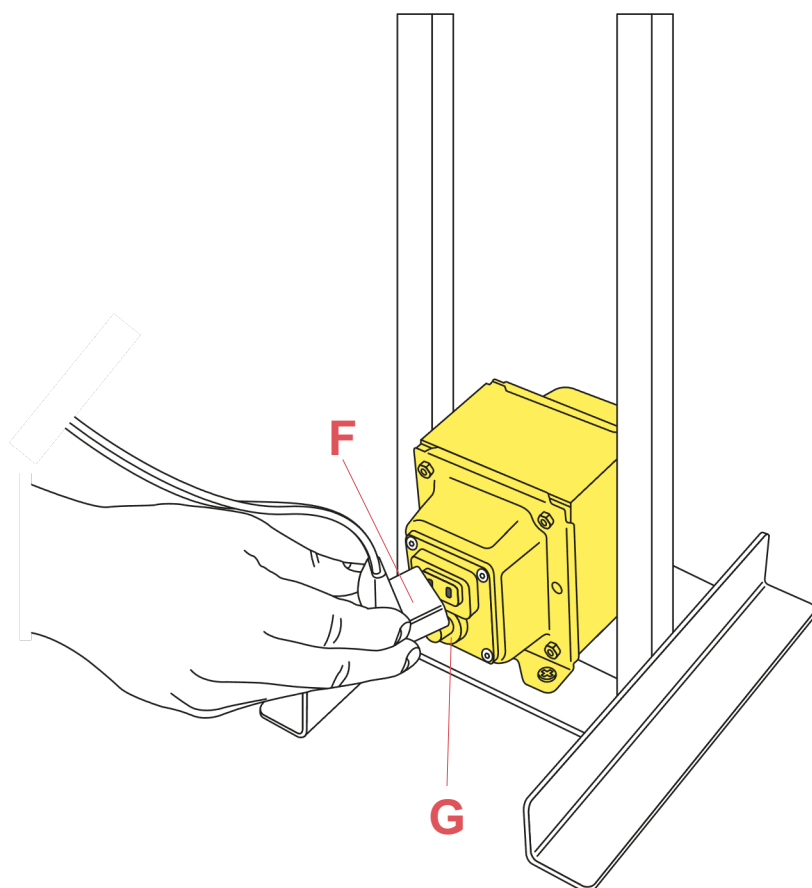

Fig.2
Connect the plug (F) to the socket (G) of the transformer.(Fig.2 page 21)